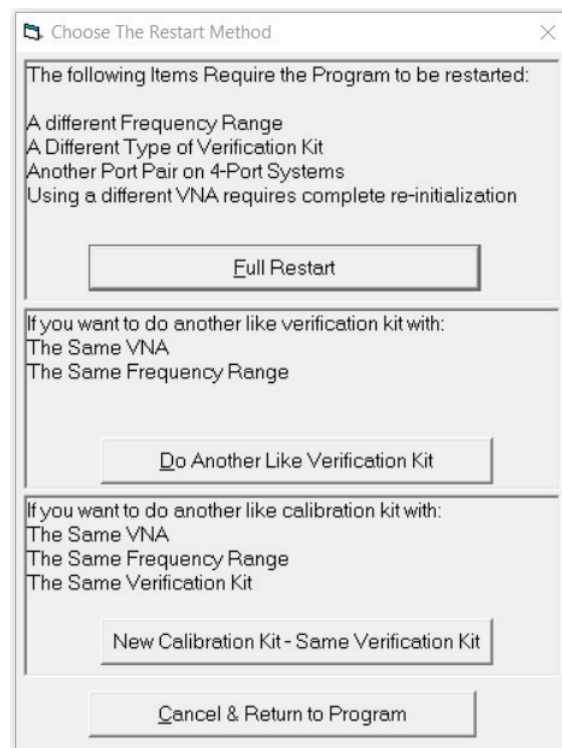

Figure 4-49. Choose The Restart Method Dialog
3. The Choose The Restart Method dialog box appears as shown below in Figure 4-49.